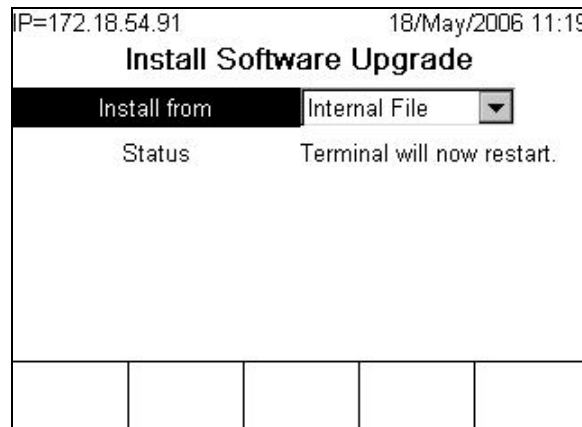

Figure 3-4: Firmware Upgrade in Progress
8. If the IND780 finds the files in the UPGRADE directory, the screen shown in Figure 3-4 appears briefly, and the terminal restarts.